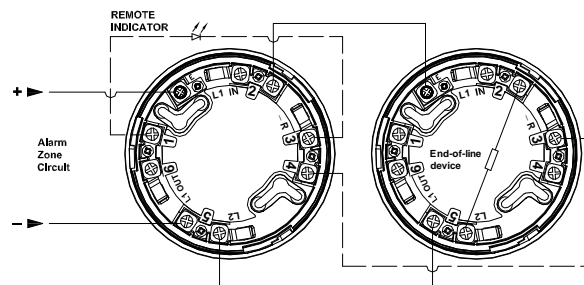

Fig. 1: 2-wire base wiring connections
- a. See Fig. 1 for detectors using 2-wire bases.